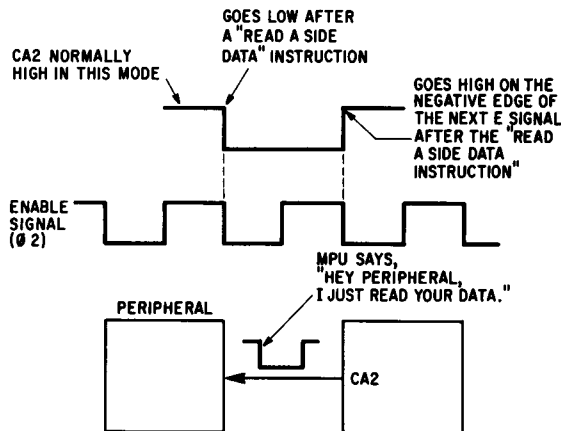

Fig. 9.18 Pulse mode
2. *Bits 5, 4, and 3 of CRA = 101 (Pulse Mode)* This mode, which tells the peripheral that the data on peripheral data register A has been read by the MPU, is used when a complete handshake is not required. The peripheral may make data available to the MPU on a continuing basis but needs to know when the MPU takes the data (see Fig. 9.18).